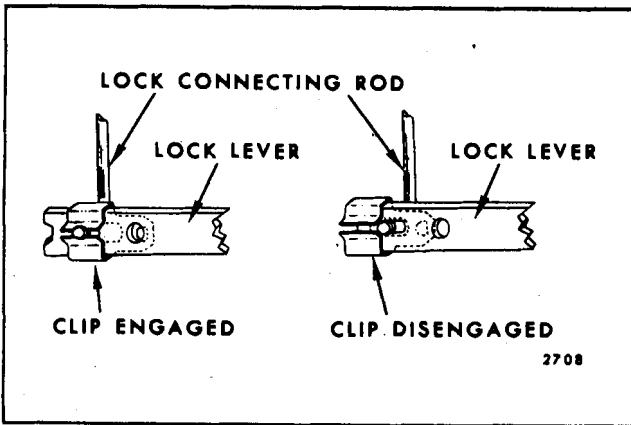

Fig. 6-11-Weatherstrip Removal Tool
3. Beginning at the front body hinge pillar, carefully pull weatherstrip out of retainer while breaking sealer bond between weatherstrip and retainer with a flat-bladed tool. A tool for this use can be fabricated from tool J-21104 or equivalent by trimming 1/4" from the blade and 1-1/2" from the handle, then filing a sharp edge on the blade. Figure 6-11 illustrates fabrication of this tool.